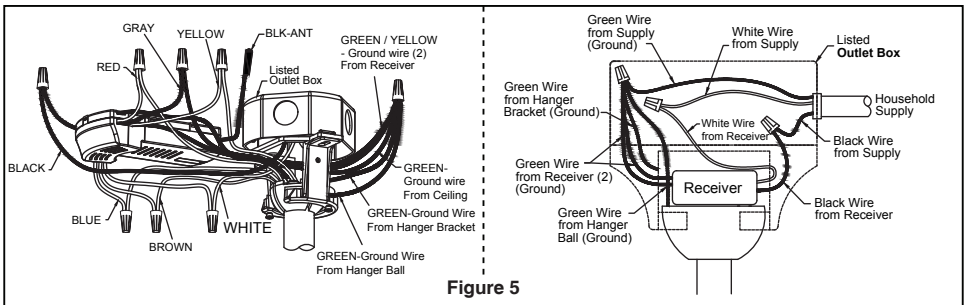

Figure 5
5. Route wires through motor coupling cover, canopy screw cover and ceiling canopy. (Figure 5)
4. After connections have been made, put the white and green leads to one side and the black leads towards the other side, the connection should be turned upward and carefully push leads into the outlet box. The wires should be spread apart with the grounded conductor and the equipment-grounding conductor on one side of the outlet box and the ungrounded conductor on the other side. (Figure 5)
- ☐ 5. Assemble the light kit assembly to the light plate assembly using the two key slots. Replace the removed screw in Step 3 and secure all three screws. (Figure 5)
5. To set the remote code same positions as the receiver with a small screwdriver or ball point pen (neither included), slide dip switches firmly up or down. (Figure 5)